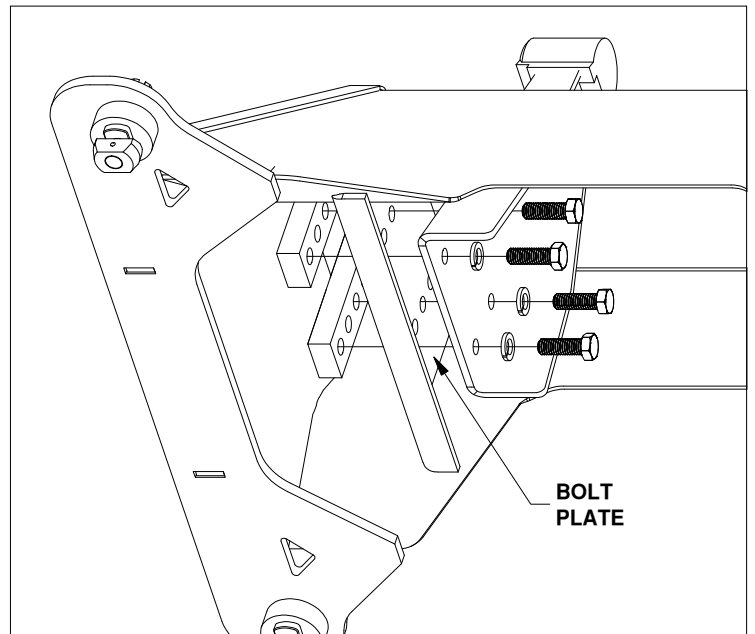

Figure A2: Passenger pivot arm mounting location.
2. **Secure arms.** Locate both pivot arms, the four threaded blocks, eight 1/2" cap screws, and eight 1/2" split lock washers. Place the lock washers over the cap screws. Align the flat side of the pivot arm flat against the bolt plate and install four 1/2" cap screws through the holes on the arm, holding the arm in place, as shown in Figure A2. Locate the threaded blocks. Note that the sides of the block have threaded holes on one side and smooth bored holes on the other side. When installing the threaded blocks it is critical that the side with the smooth holes is flat against the bolt plate when installed. It is also critical that each of the five holes in the threaded block match up with the five vertical holes in the bolt plate. Pass the threaded block under the bases side and align the block with each set of screws and start each screw, as shown in Figure A2. After all the screws are started through the arms, torque each bolt to 110 ft-lbs.